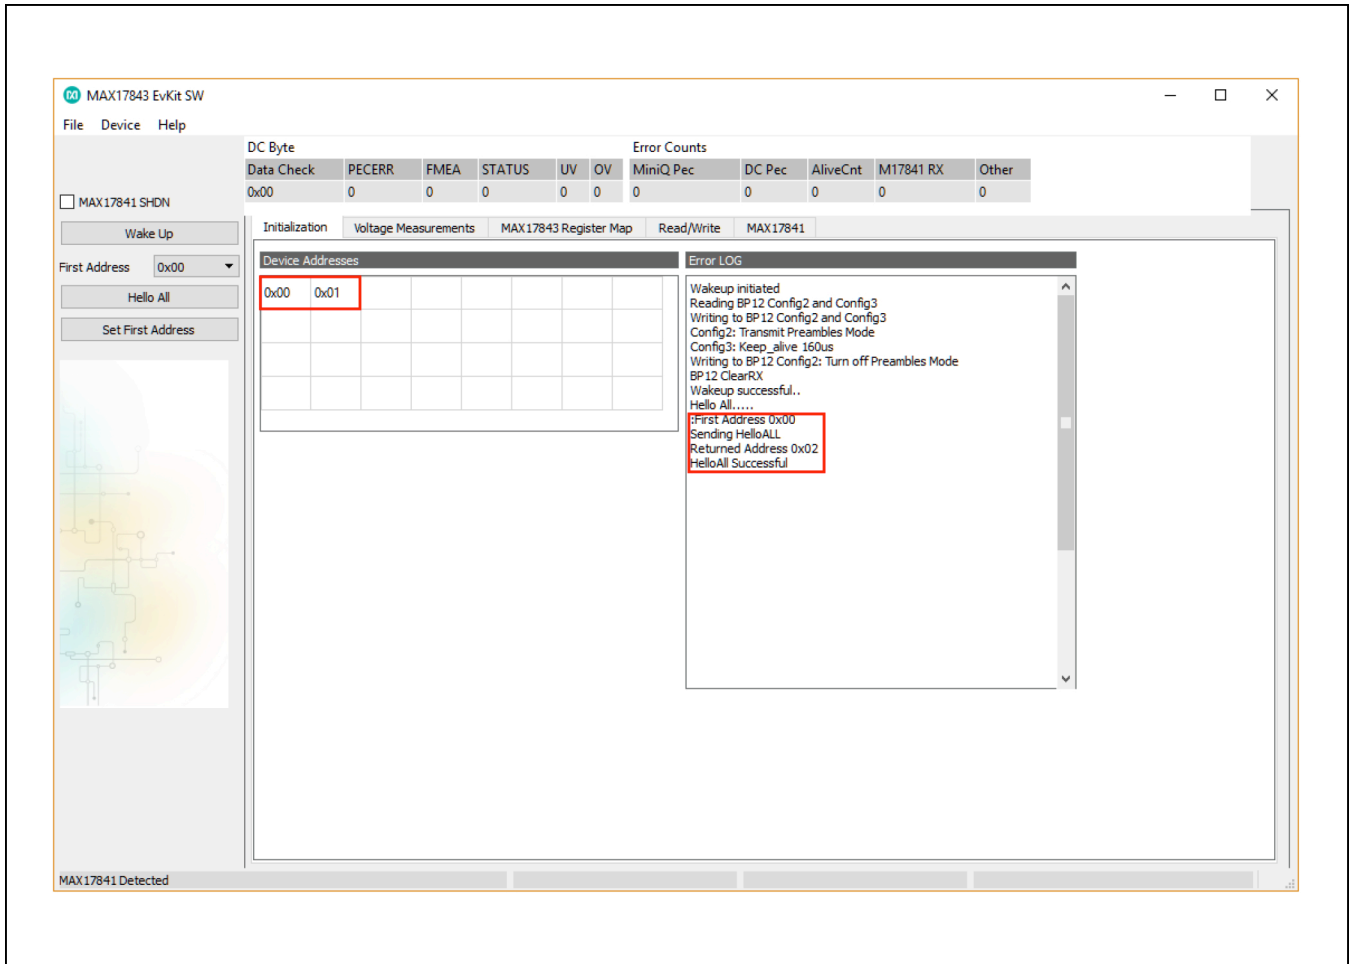

Figure 3. MAX17843 EV Kit Software (Installation Tab—Set First Address)
- 18) Click the **Set First Address** button (Figure 3).
- 19) Verify that the **Device Addresses** grid contains two device addresses (Figure 3).
- 6) Click the **Set First Address** button (Figure 3).
- This control writes the address of the first device to the upper 8 bits of each device’s 16-bit ADDRESS register. This control uses the WRITEALL command. This control also updates the **Device Addresses** grid, as shown in Figure 3.
When the **Set First Address** sequence is complete, the software updates the grids on the **Device Addresses Grid** box (Figure 3).
The **Device Addresses** grid is initialized after clicking the **Set First Address** button (Figure 3). The grid contains the addresses of all detected devices in the daisy-chain. For the two-device daisy-chain procedure with a start address of 0x00, the grid would be displayed as shown in Figure 3.